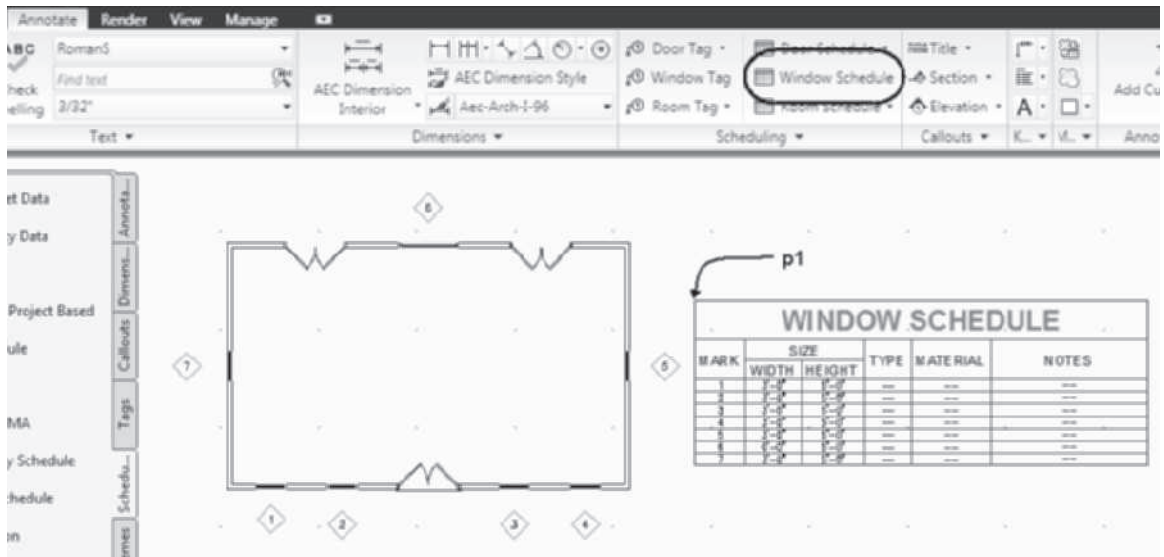

FIGURE 11.57 Window Schedule placed with initial data
- Select **Window Schedule** from the **Scheduling** panel of the Annotate tab as shown in Figure 11.57. Verify the following settings in the **Properties** palette: Style = **Window Schedule**, Scale = **96 [100]**, Update automatically = **Yes**, Add new objects automatically = **Yes**, Scan Xrefs = **Yes**, Scan block references = **Yes**, and Layer wild-card = *****. Move the cursor from the Properties palette to the workspace. Respond to the workspace prompts as follows:
Upper-left corner of table: (Select a point near p1 as shown in Figure 11.57.)
Lower-right corner (or RETURN): ENTER (Press ENTER to insert the schedule scaled to the drawing scale. The schedule is inserted as shown in Figure 11.57.)